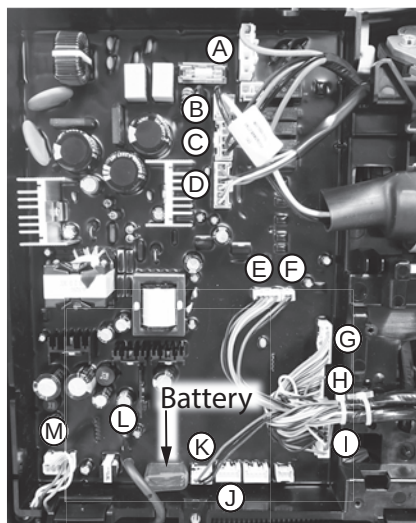

Figure 21 - Wiring harness connection points.
- 4 Locate and disconnect the wiring harness connection point J shown in Figure 21.
14 Using Figure 21 as reference disconnect the wiring harnesses A through M from the control board.
34 Reconnect the "keepers" on wiring harnesses B and I removed in **Steps 17 & 18**. Reference Figure 21 for placement of each wiring harness.
35 Reconnect the user interface module wiring harness removed in **Step 4**. Reference Figure 21 for connection point M.
39 If the new control board does not have a battery installed, remove the battery from the old control and place it in the new one. See Figure 21 for battery location.